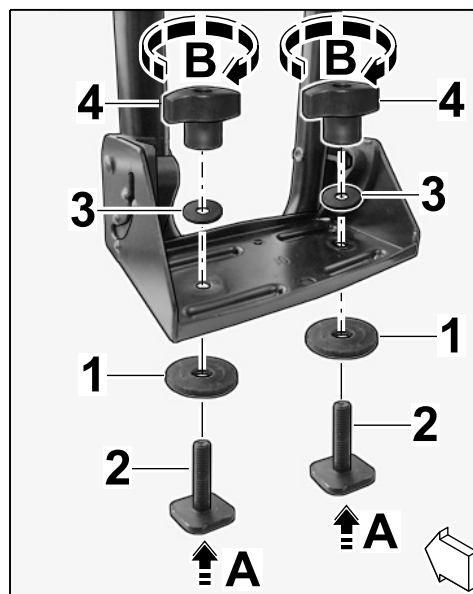

Figure 18
2.2.2 Insert T-bolt (M6 x 26) with plastic washer (6.5 x 22 x 2 mm) from below through the bore in the retainer plate for the front wheel holder (⇒ *Figure 18-A*).
2.2.4 Screw M6 butterfly nut approx. 3 turns onto the T-bolt (M6 x 26) (⇒ *Figure 18-B*).